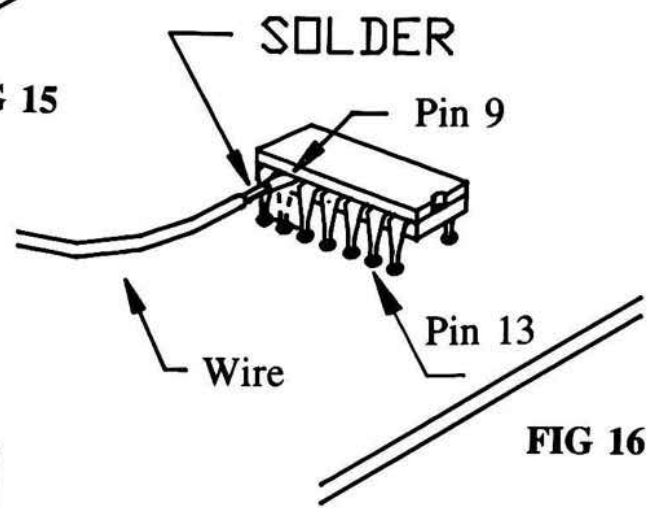

FIG 16
Step 4 - Solder one end of an insulated wire to the pin of U8 modified in step 3. Refer to FIG 16. Be careful NOT to solder bridge adjacent pins of U8.